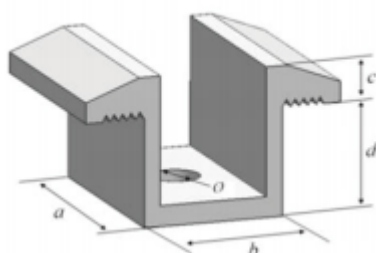
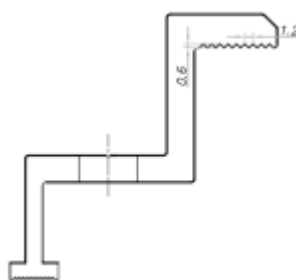

Figure 4 Schematic Diagram of Intermediate Clamp
Fig. 5 Schematic Diagram of Cross Section of Edge Clamp
- ① Place the PV module on two brackets (not provided). The brackets must be made of stainless steel or be treated with corrosion protection (e. g. hot-dip galvanized treatment). Each PV module needs at least 4 clamps to fix. During installation, please do not let the clamp directly contact the glass and deform the frame, otherwise it will result in PV module damaged.
- ② Be sure to avoid the shading effect of the PV module due to the shadow formed by the clamp. The drain hole shall not be covered by the clamp . The clamp must have an overlap of at least 10mm with the PV module frame (the section of the clamp can be changed on the premise of ensuring the reliable installation of the PV module).
- ③ The upper surface of the bracket in contact with the PV module frame shall be provided with a groove matched with the M8 bolt.
- ④ If there is no groove on the bracket, a hole of appropriate diameter shall be drilled at the position mentioned above for bolt fixing.
- ⑤ Make sure that the installation sequence of each clamp is flat washer, spring washer and nut.
- ⑥ Figure 4 shows the middle mounting clamp , and Figure 5 shows the edge mounting clamp and its sectional view. The size of the middle and side pressing blocks are $a \geq 50\text{mm}$, $b \geq 26\text{mm}$, $c \geq 5\text{mm}$, $d \geq 28\text{mm}$, $\phi = 9\text{mm}$ and the recommended wall thickness $\geq 4\text{mm}$. When the bolts and screws are of Grade 8.8, the recommended tightening torque is 17-23Nm. Consult the installer or bracket supplier for specific torque values.
- ⑦ In order to prevent the module from falling off from the frame after installation, it is recommended to select the clamp with patterned groove structures for edge and intermediate clamp k with contact surfaces with frame A. The recommended number of groove structures is about 9, the distance between adjacent grooves is recommended to be about 1.2mm, and the groove depth is recommended to be about 0.6mm, as shown in Figure 5.